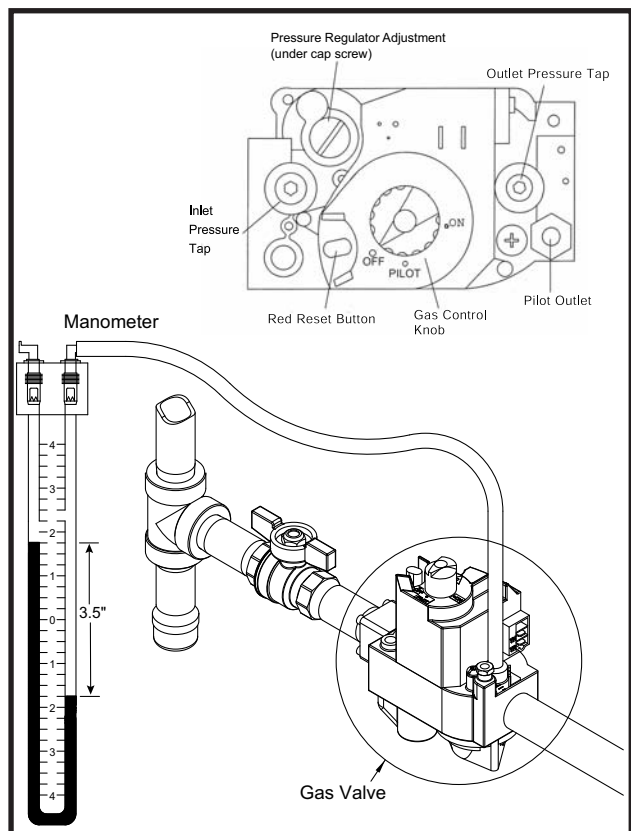

FIG. 18 Manifold Pressure Adjustment
- Remove the 1/8" hex plug located on the outlet side of the gas valve and install a fitting suitable to connect to a manometer or magnahelic gauge. See Figure 18. Minimum range of scale should be up to 5" w.c. for Natural gas models and 10" w.c. for L.P. gas models.
- Remove pressure regulator adjustment cap screw on the gas valve. See Figure 18 for location.
5. Remove the 1/8" hex plug, located on the “inlet” side of the gas valve and install a fitting suitable to connect to a manometer or magnahelic gauge. On two gas valve models, remove the hex plug from the gas valve closest to the gas supply connection. Range of scale should be 14" w.c. or greater to check inlet pressure. See Figures 18 and 19 for location.